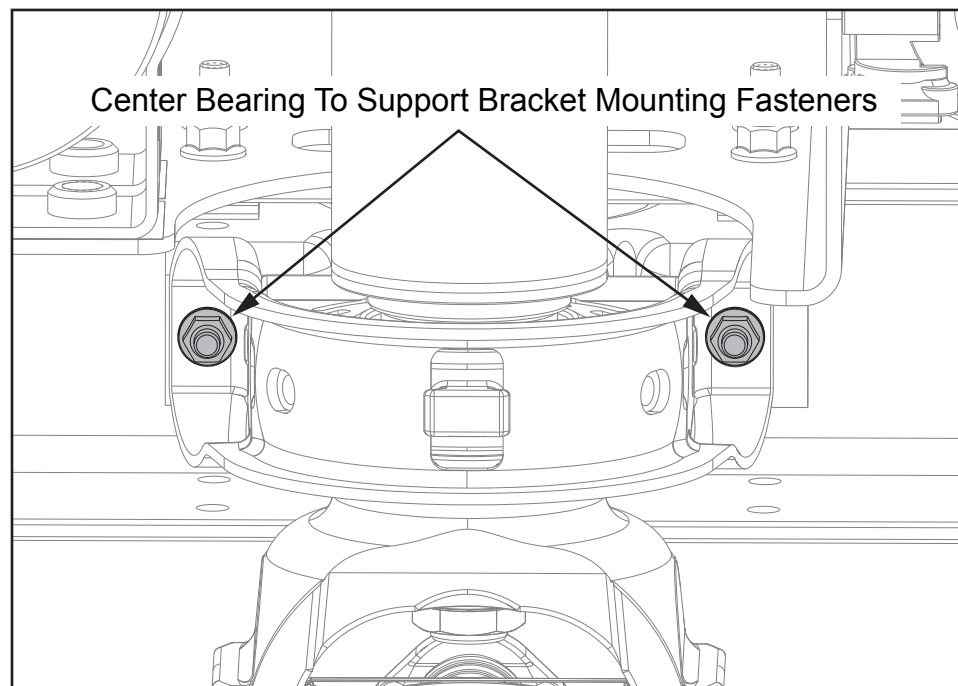

Figure 7, DC vehicles
9. For DC vehicles. Locate the 2 center bearing to support bracket mounting fasteners and tighten to 59 Lbs-ft of torque (see *Figure 7*).